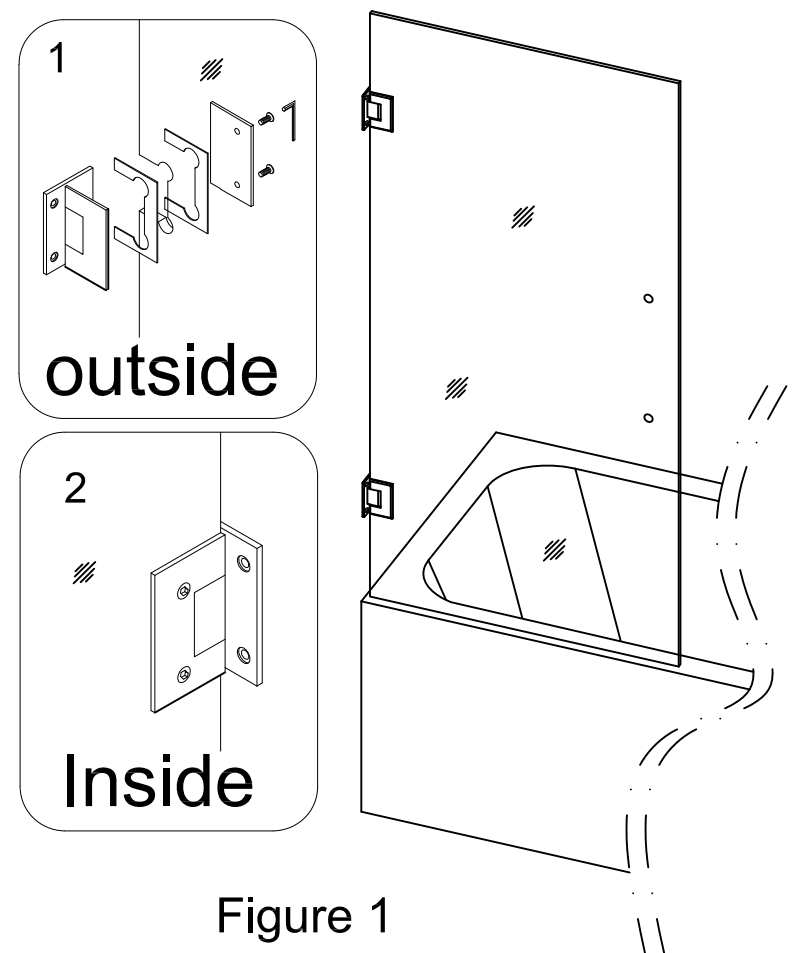

Figure 1
1. Attach the Hinges (05) to Glass door (01). The smooth flat surface of Hinge (05) should be installed on outside of glass door. See Figure 1 for details.